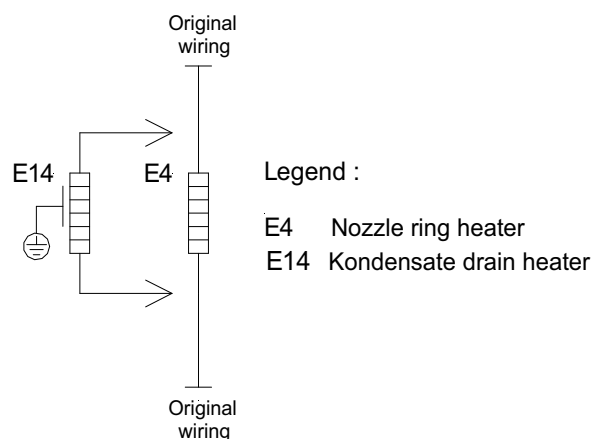

Fig. 1.2:
- 4) Connect the line in parallel to the nozzle ring heater E4 (see Fig.1.2 on pag. 1).